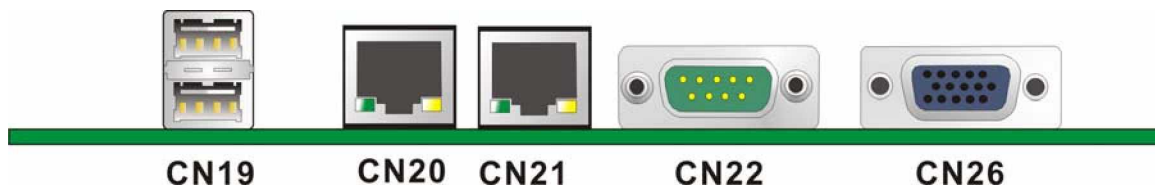

Figure 3-23: 3302040 On-board External Interface Connectors
Figure 3-23 shows the 3302040 motherboard external interface connectors. The 3302040 on-board external interface connectors are listed below and shown in **Figure 3-23**:
- CN Location: See **Figure 3-23**
CN Location: See **Figure 3-23**